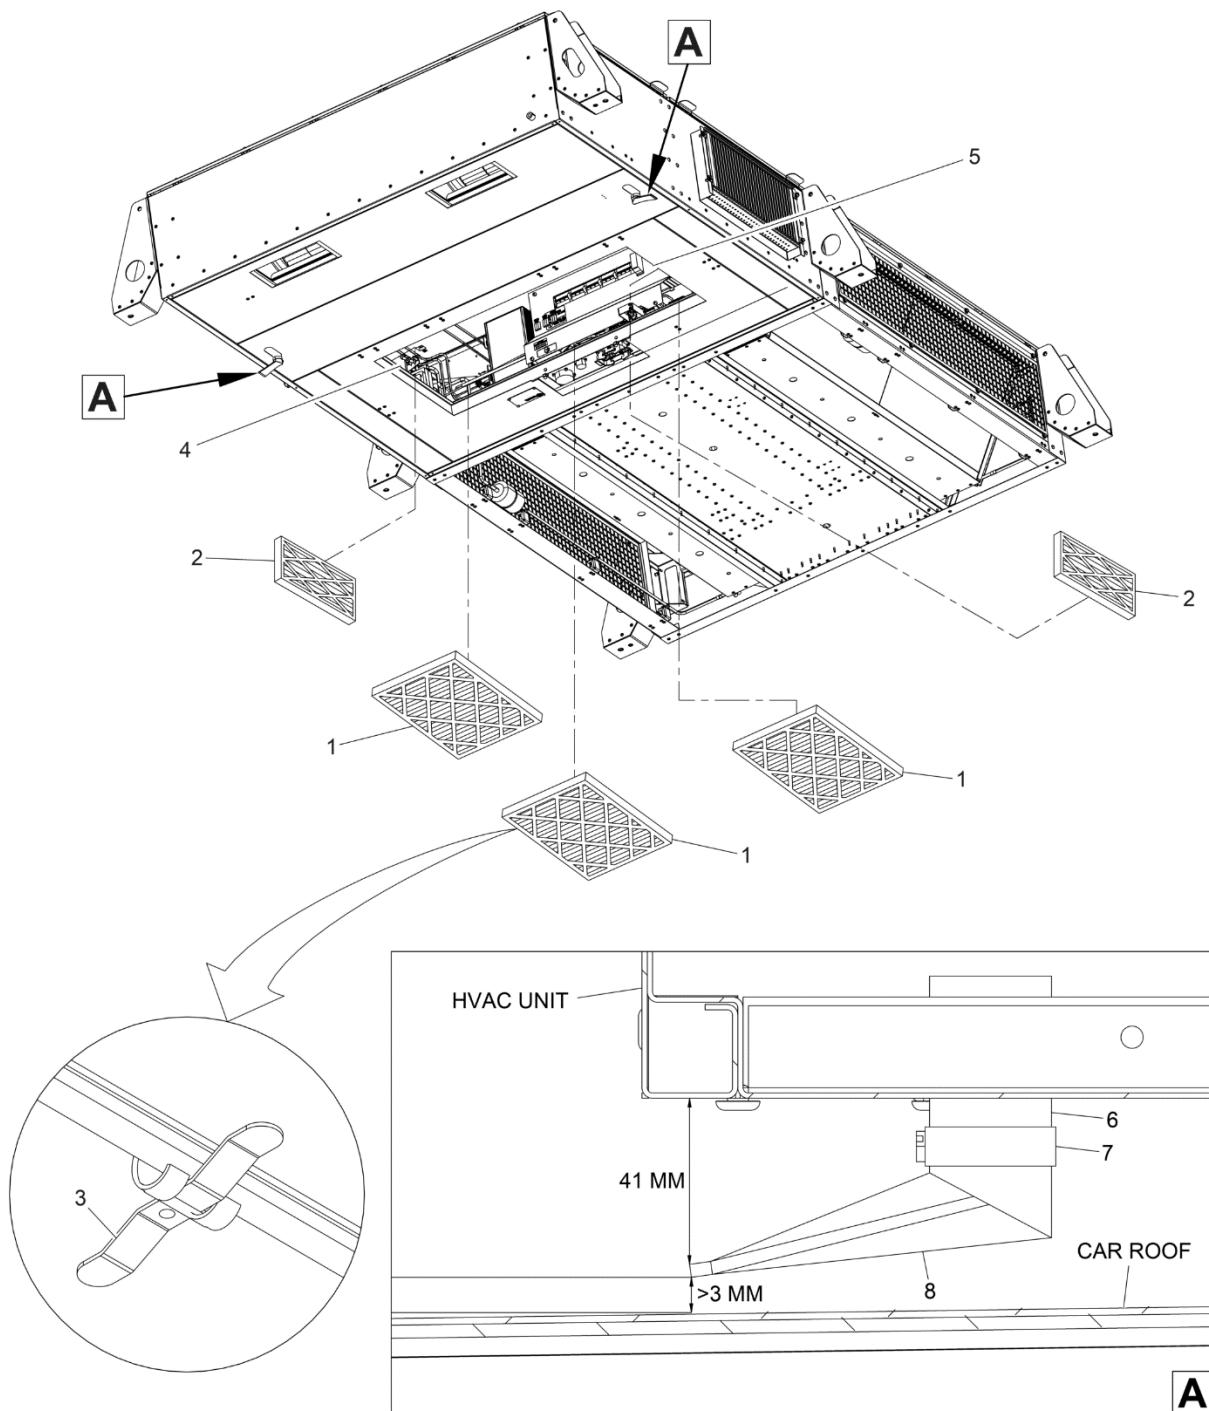

Figure 5-1: Monthly HVAC Maintenance
See Figure 5-1.
1. Using 7mm socket, extension, and ratchet, loosen hose clamp (7, Figure 5-1) and remove drain trap (8) and hose clamp (7) from drain pipe (6). Retain hose clamp unless damaged.
2. Install retained or new hose clamp (7) on new drain trap (8).
3. Install new drain trap (8) with hose clamp (7) attached on HVAC unit drain pipe (6) and ensure drain trap (8) beak is facing outward (perpendicular to HVAC unit). Refer to Figure 5-1, Detail A, for drain trap (8) positioning before tightening hose clamp (7).
Refer to Figure 5-1.
6. Clean drain trap (8) by hand using general purpose soap and pipe brush or similar tool. Inspect drain traps (8) for damage, cracks, and deterioration. If drain trap (8) is damaged, replace drain trap (8); refer to Section 5.3.1.2. Otherwise, continue with Step 7.
7. Install cleaned (or new) drain trap (8) with retained hose clamp (7) and ensure drain trap (8) beak is facing outward (perpendicular to HVAC unit). Refer to Figure 5-1, Detail A, for drain trap (8) positioning before tightening hose clamps (7).
8. Repeat Steps 5 through 7 for second drain trap (8).